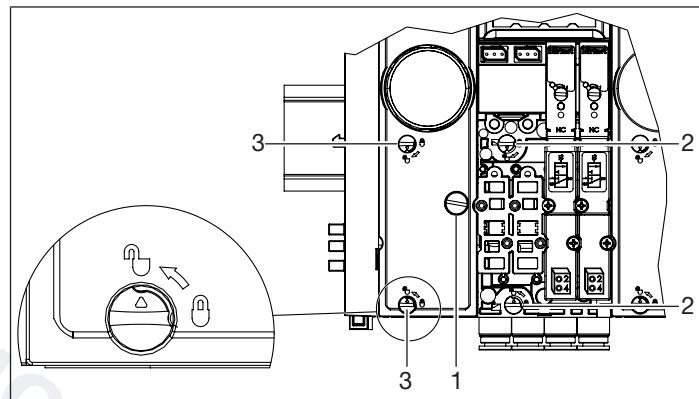

Fig. 15: Unlocking elements and fastening screw
- Carefully rotate the connection module fastening screw (Item 1, "Fig. 15") anticlockwise with a slotted screwdriver until it comes to a stop.
- Set the bottom locking element (Item 2, “Fig. 15”) of the valve unit on the right side to the open position with a slotted screwdriver (the open position is labelled on the front of the unit with the aid of a pictogram).
- Set the top locking element (Item 2, “Fig. 15”) of the valve unit on the right side to the open position with a slotted screwdriver (the open position is labelled on the front of the unit with the aid of a pictogram).
- Carefully rotate the connection module fastening screw (Item 1, “Fig. 15”) anticlockwise with a slotted screwdriver until it comes to a stop.
- Set the bottom locking element of the connection module (Item 3, “Fig. 15”) and the valve unit on the right side (Item 2, “Fig. 15”) to the open position with a slotted screwdriver (the open position is labelled on the front of the unit with the aid of a pictogram).
- Set the top locking element of the connection module (Item 3, “Fig. 15”) of the valve unit on the right side (Item 2, “Fig. 15”) to the open position with a slotted screwdriver (the open position is labelled on the front of the unit with the aid of a pictogram).
- Set the bottom locking element (Item 2, “Fig. 15”) of the valve unit on the left side to the open position with a slotted screwdriver (the open position is labelled on the front of the unit with the aid of a pictogram).
- Set the top locking element (Item 2, “Fig. 15”) of the valve unit on the left side to the open position with a slotted screwdriver (the open position is labelled on the front of the unit with the aid of a pictogram).
- Set the bottom locking element (Item 2, “Fig. 15”) of the valve unit to be dismantled, and the valve unit on the right side, to the open position with a slotted screwdriver (the open position is labelled on the front of the unit with the aid of a pictogram).
- Set the top locking element (Item 2, “Fig. 15”) of the valve unit to be dismantled, and the valve unit on the right side, to the open position with a slotted screwdriver (the open position is labelled on the front of the unit with the aid of a pictogram).